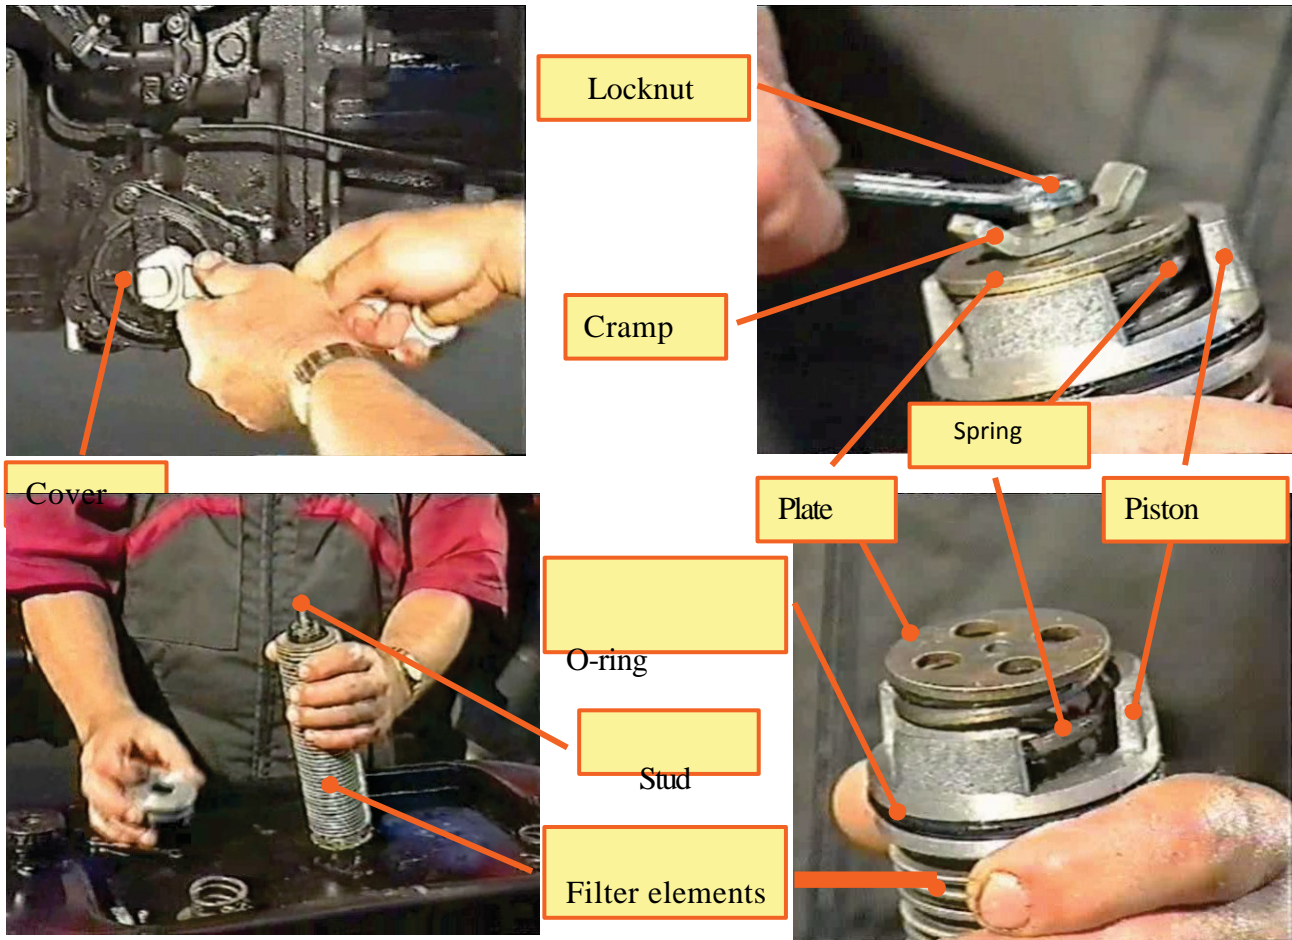

Figure 8.26
**Procedure 19. Washing the Screen Filter in the Gear-Box Hydraulic System (fig. 8.26)**